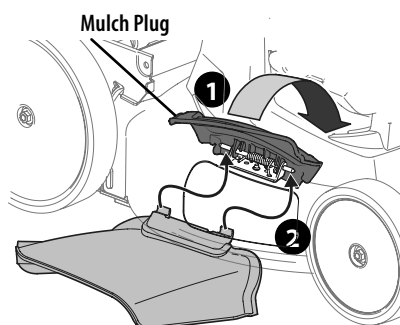

Figure 9
1. On the right side of the mower, lift the mulch plug (Figure 9).